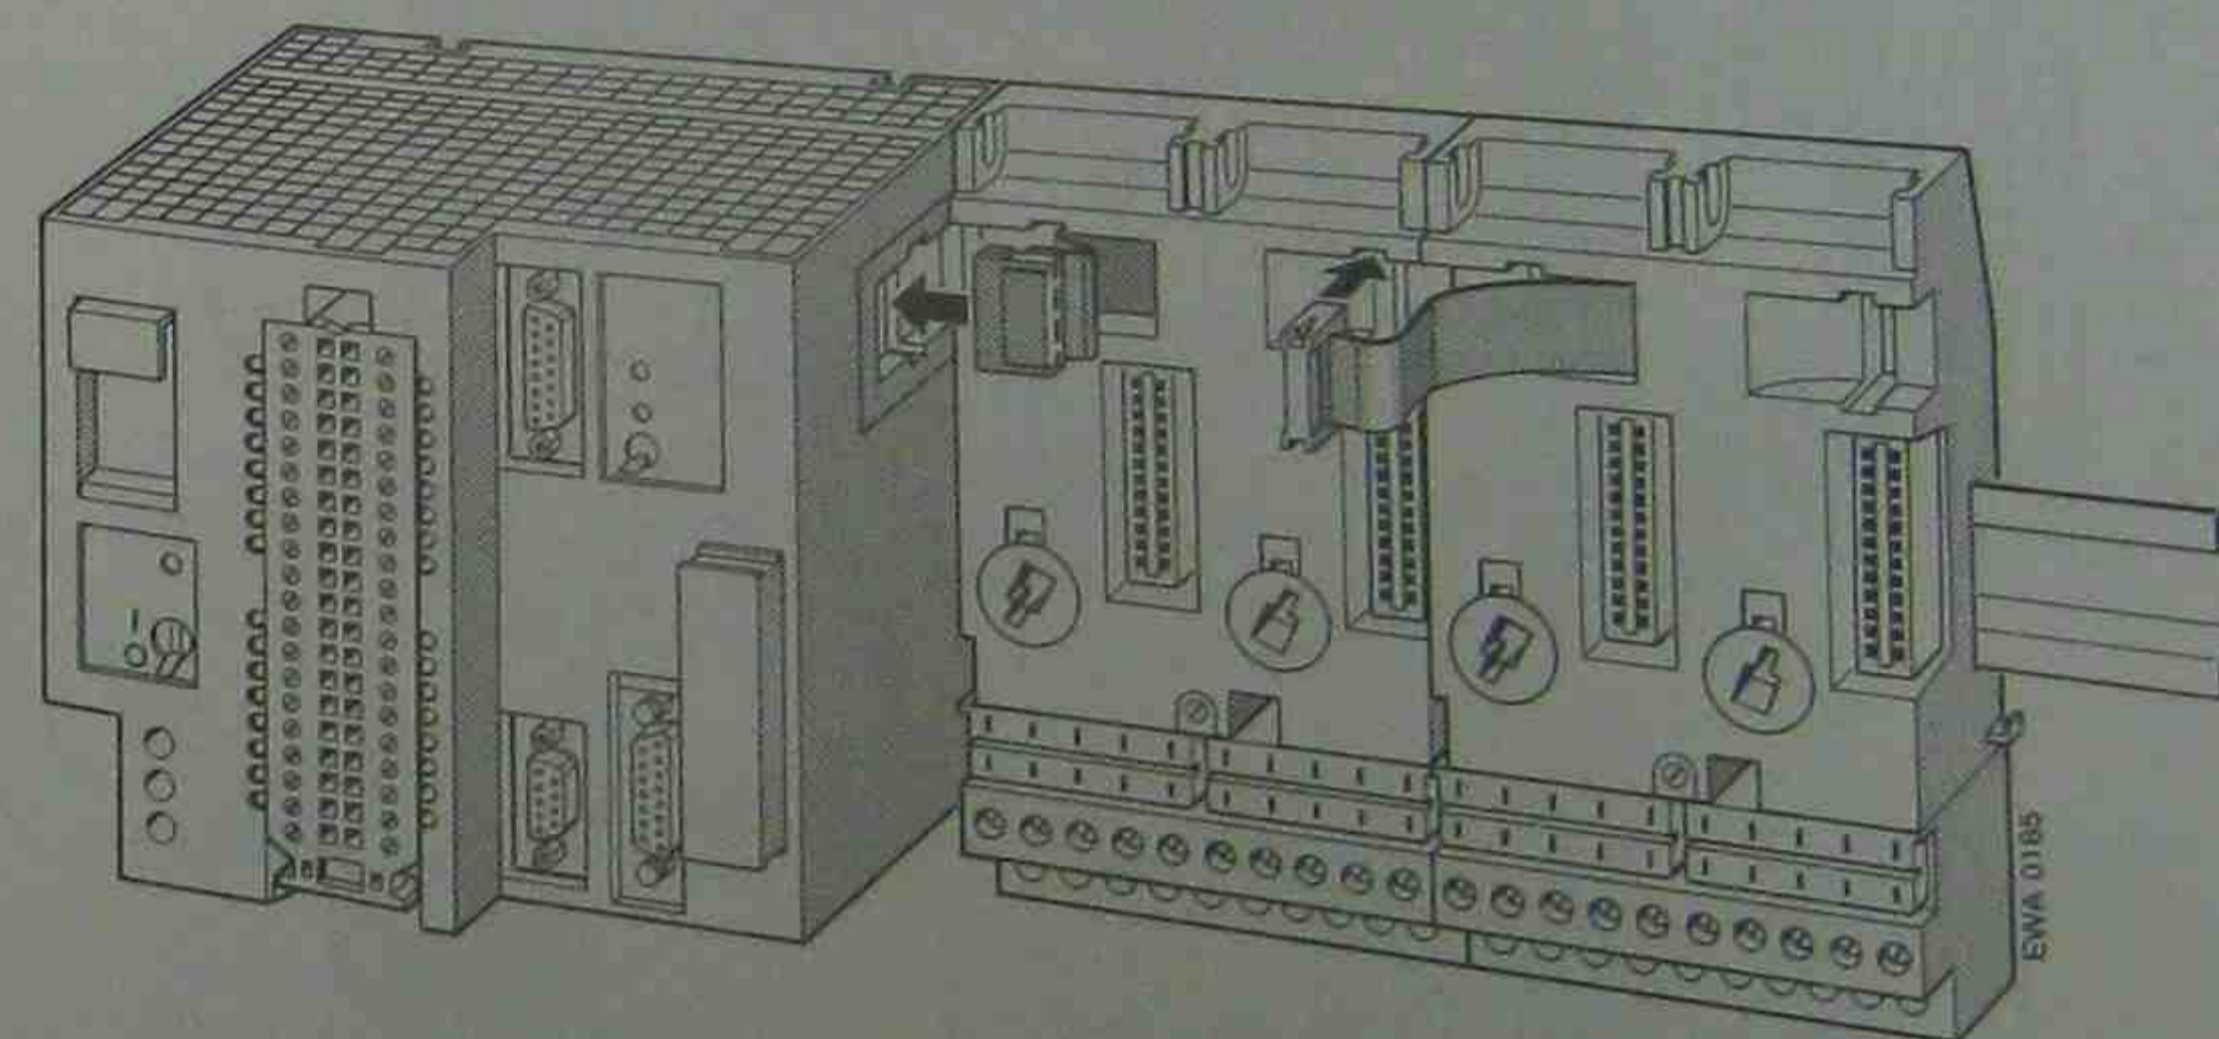

Figure 3-7. Connecting the Bus Units
- ▶ Plug the connector into the receptacle on the right side of the controller or into the adjacent receptacle of the bus unit on the left side (see Figure 3-7).